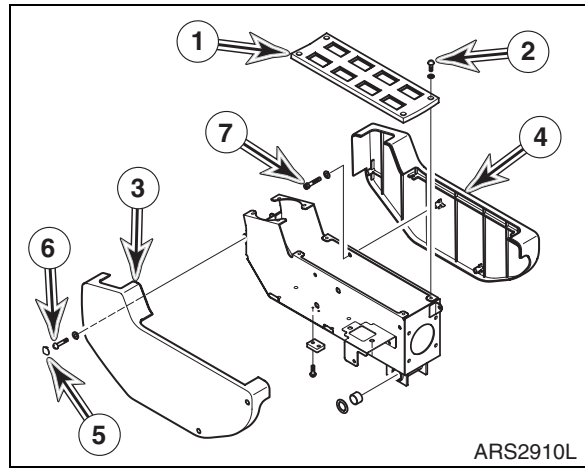

Figure 42
8. Install three screws, one bolts and washers (7, Figure 42), and cover (4).
9. Install two screws, two bolts and washers (6, Figure 42), and cover (3). Push cap (5) into cover (3).
10. Install four bolts and washers (2, Figure 42), and cover (1).